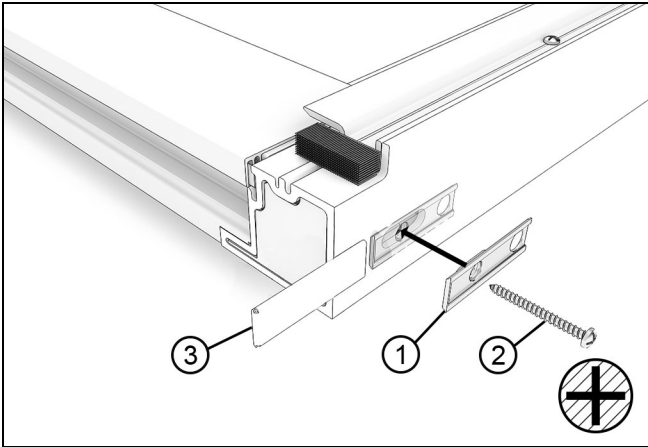

Figure 79
1. On pocket and secondary panels, fasten the cover retainer to the top of the stiles with a #8x 1 3/4" (44) Phillips head screw. Slide the cover over the retainer. See Figure 79.